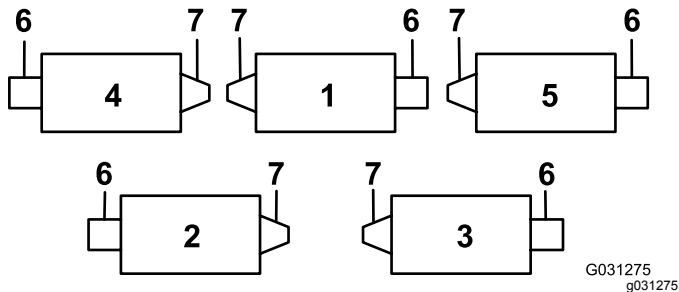
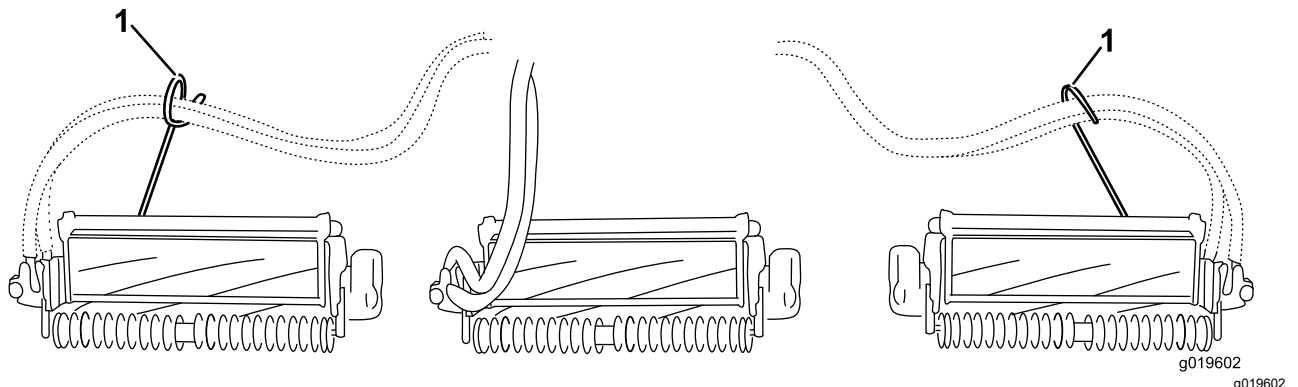
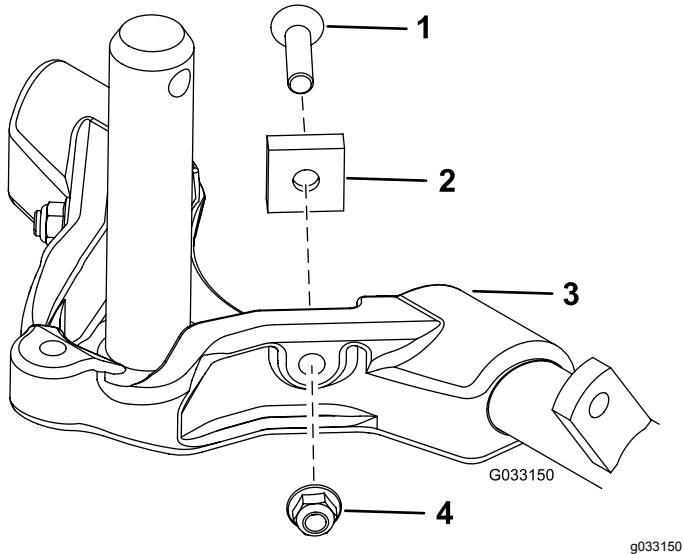

Figure 12
Figure 14
Figure 15
Important: On Cutting Unit 4 (left front) and Cutting Unit 5 (right front), use the rod-bracket mounting nuts to install the hose guides to the front of the cutting-unit tabs. The hose guides should lean toward the center cutting unit (Figure 12 through Figure 14).
7. Increase the steering on the rear cutting units by removing the 2 pivot spacers, hex-socket screws, and flange locknuts (Figure 15) from the carrier frames of the rear cutting units (Cutting Units 2 and 3); refer to Figure 12.